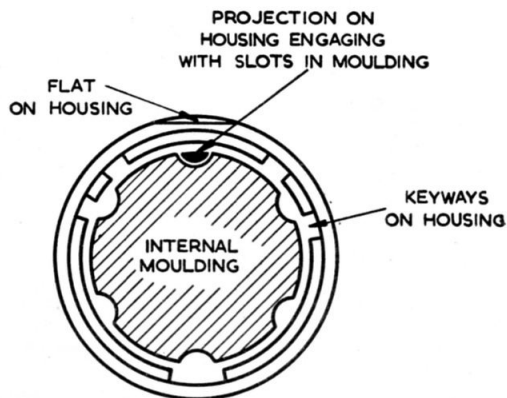
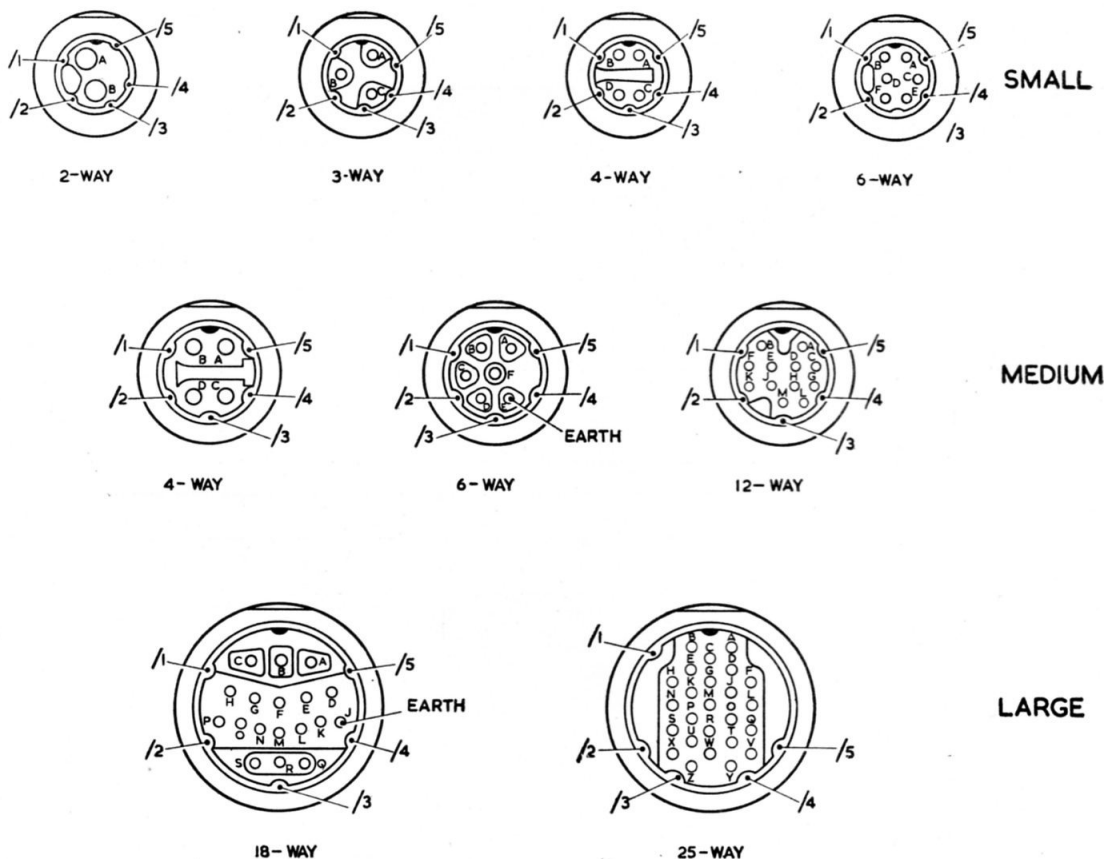

Fig. 5. Recognition of alternative moulding positions
Fig. 6. Possible plug pin arrangements
9. As illustrated in fig. 5, all Mk. 4 plugs and sockets consist of an internal moulding, which carries the plug pins and socket inserts, fitted inside an outer housing. On the housing is a projection, which will engage with any one of six slots around the internal moulding. The position of this projection can be recognised by the fact that it comes immediately opposite the flat on the screwed portion of the housing, and between the two double keyways. In fig. 6 is shown the complete range of plugs with the various pin arrangements; all are illustrated in the standard position, but the alternative positions are indicated. These are obtained initially by having the internal moulding rotated with respect to the housing, so that the projection engages with another of the grooves on the moulding.